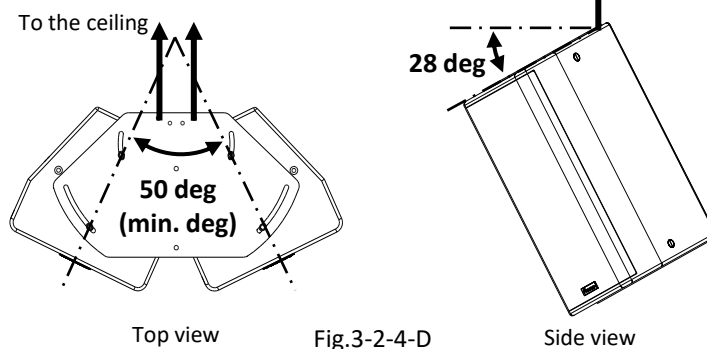

Fig.3-2-4-D
- Ensure the two commercially-available M10 eyebolts are secured to the mounting points on both edges of the top of the XY-122/152 enclosures to suspend it with wire as a secondary safety feature. (Fig.3-2-4-E)